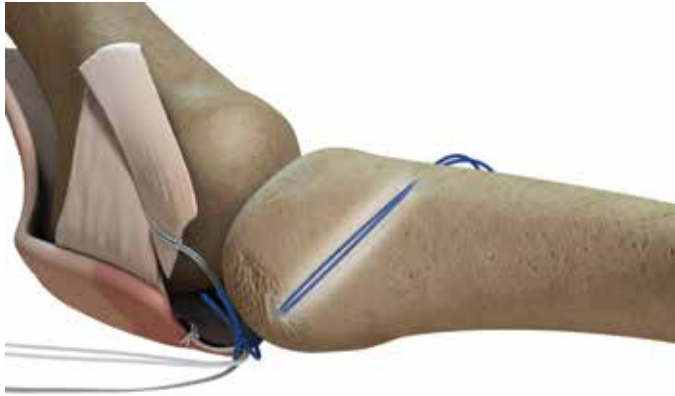
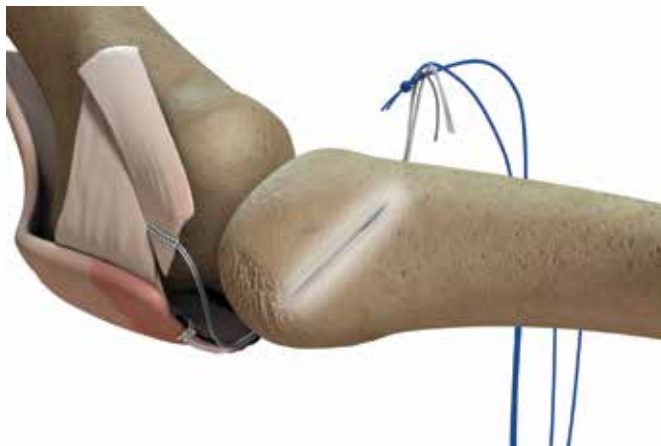

Figure 20a: Pass the sutures through bone tunnel
Figure 20c: Retrieve the sutures on the dorsal side
11. Pass all the sutures on the plantar side of the tunnel through the suture loop and pull them through the bone tunnel to the dorsal side (Figures 20a and 20b). Retrieve the sutures on the dorsal side of the tunnel (Figure 20c).